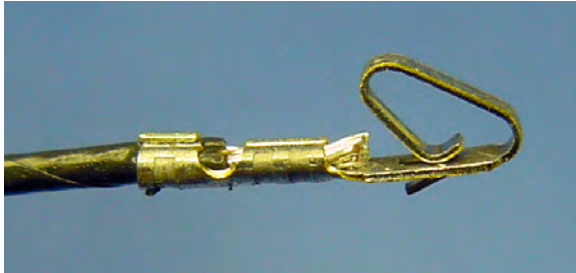

Figure 22-17. Two crimps attaching wire to terminal
7. When complete, the terminal and wire should look like Figure 22-17. Because there are two sets of flaps being crimped over two thicknesses of wire, you have to crimp each set of flaps individually in different-size diameter slots of the crimp tool.